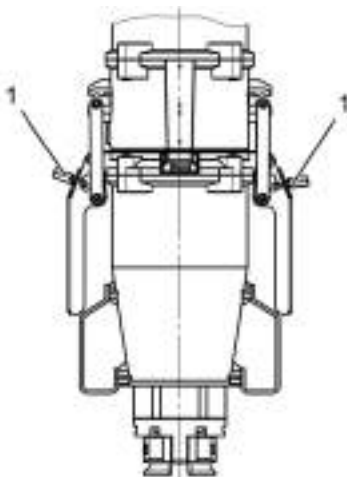

Fig.63: Securing the locking levers
4. Use a padlock to secure the locking levers (Fig. 63 /1).